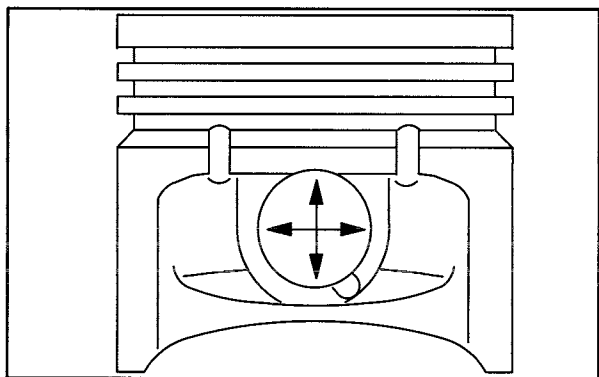

Fig. 5
3. Check piston pin bore, Fig. 5. Replace piston if worn beyond reject dimension or 0.0005" (0.01 mm) out of round.